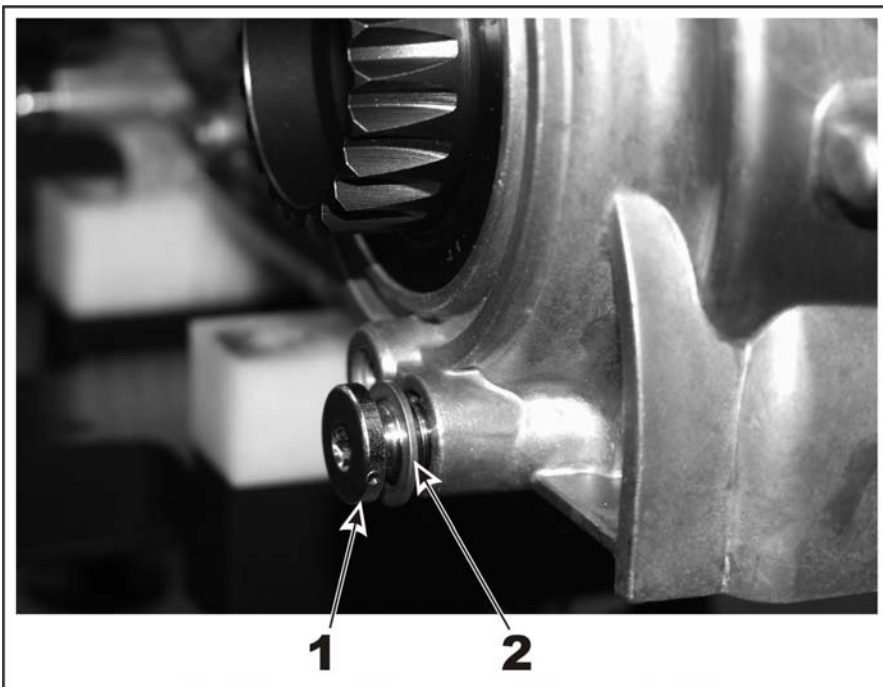

Fig. 3
- ◆ **Note:** For draining the oil from the gear case remove the magnetic oil drain plug (1) and sealing ring (2). Clean the oil drain plug before installation, always use a new sealing ring. See Fig. 3